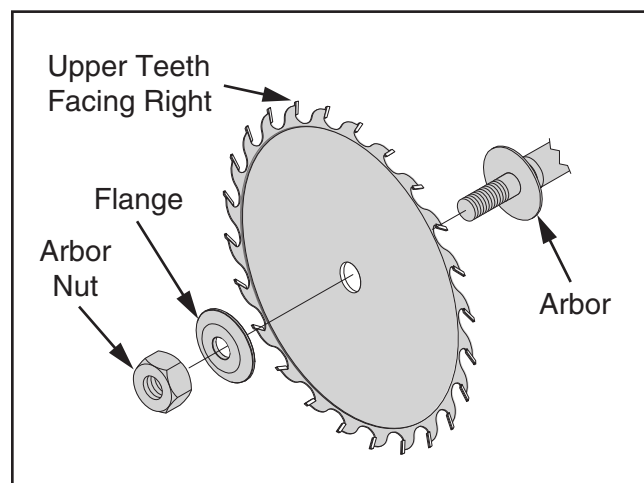

Figure 39. Main blade component assembly.
27. Slide main blade (not included) over arbor with teeth facing to the right, then install flange (see **Figure 39**).